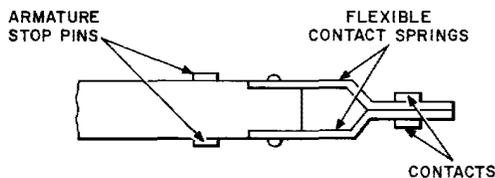
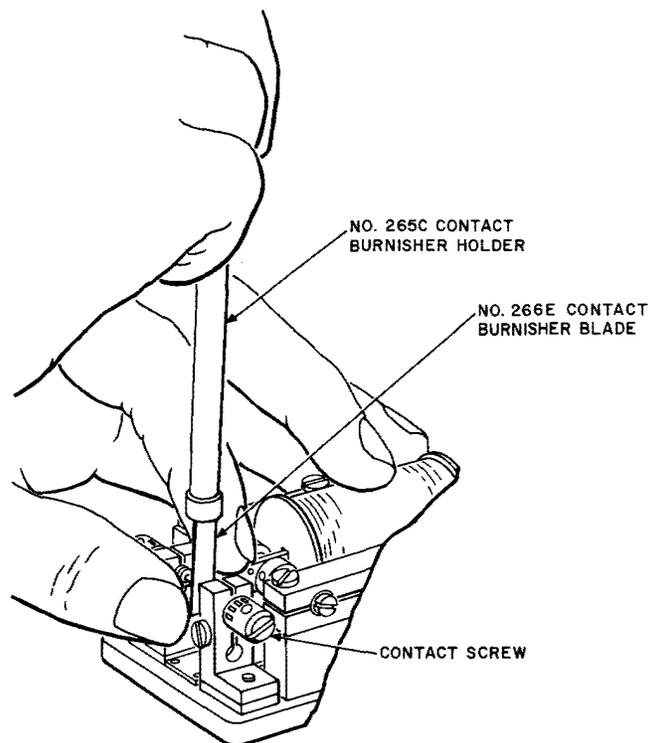

Fig. 19—Duckbill Type of Flexible Contact Springs—209-Type Relays
Fig. 20—Method of Cleaning Contacts on 209-Type Relays Equipped with Duckbill-Type Contact Springs
4.21 209-Type Relays Equipped with the Duckbill-Type of Flexible Contact Springs Illustrated by Fig. 19: Insert the 266E blade in the 265C contact burnisher holder with the wide end outward. Insert the contact burnisher blade approximately vertically between the armature and the stationary contact as shown in Fig. 20. If necessary, back off the contact screws equally to
permit the burnisher blade to enter between the armature and the contact. Hold the end of the flexible contact springs with the thumb and forefinger as shown in Fig. 20, to resist the movement of the armature in a vertical plane, and burnish the contacts by rubbing up and down while holding the armature lightly against the burnisher. Take care that the contacts are burnished so their surfaces remain parallel to the armature. Do not attempt to reproduce a rounded surface on the stationary contact. If the position of the contact screws was disturbed, readjust the screws as covered in the section covering requirements and adjusting procedures for the apparatus.